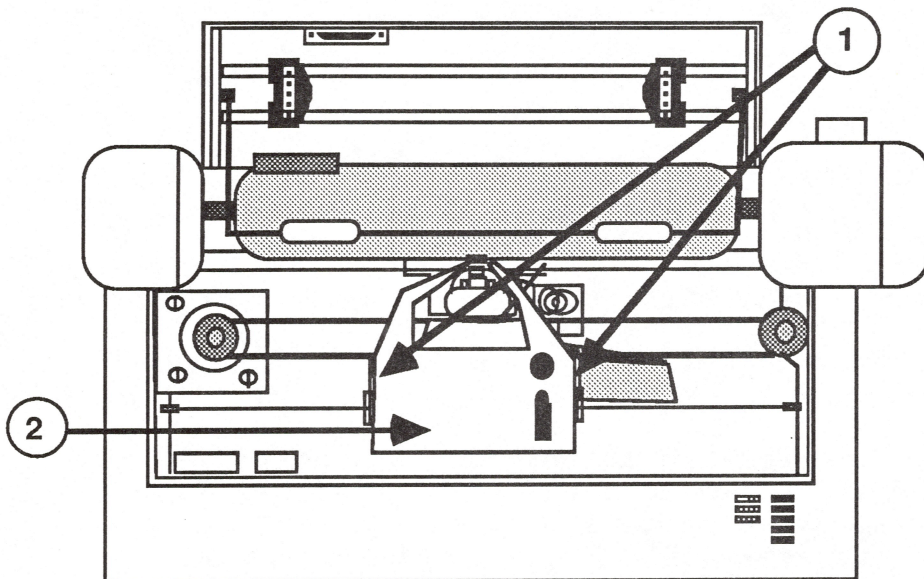

FIGURE 4
3. While pushing down on the cartridge latch arms (see Figure 4, #1), lift up the cartridge (see Figure 4, #2).
4. Push down on the cartridge until it snaps into place (see Figure 4, #2).